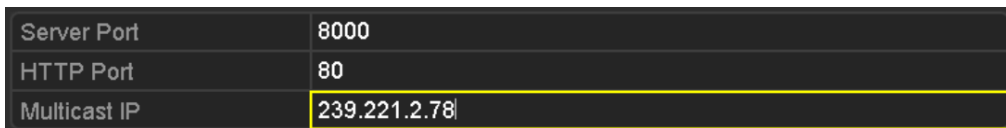

Figure 9.16 Configure Multicast
3. Set **Multicast IP**, as shown in Figure 9.16. When adding a device to the Network Video Surveillance Software, the multicast address must be the same as the NVR's multicast IP.